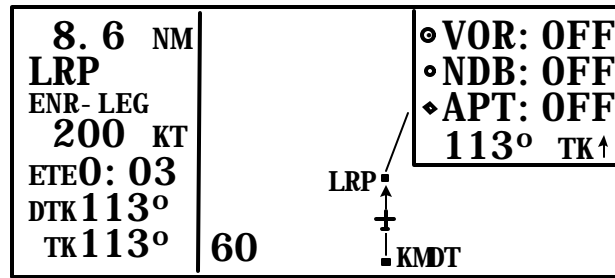

Figure 3D-17. Super NAV 5 Page (Waypoint Identifiers)
(4) Like the NAV 5 page, the Super NAV 5 page shows a graphic depiction of the direct to waypoint or the waypoints making up the active flight plan. The Super NAV 5 page, however, shows waypoint identifiers. Nearby VOR's, NDB's, and airports may be added to the graphics display. Refer to Figure 3D-17. To do so, press the right **CRSR** button to display a pop up menu on the right side of the screen. Notice from the menu that a circle with a dot in the center represents a VOR, a smaller circle represents an NDB, and a small diamond represents an airport. The VOR's, NDB's, and airports displayed are those from the nearest waypoint lists.